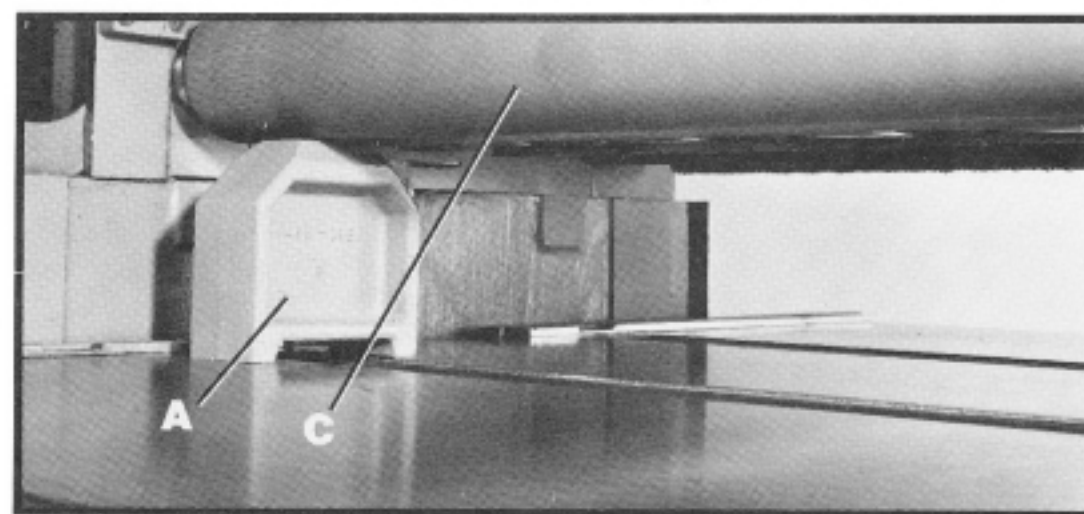

Fig. 29
4. Place the gage block (A) Fig. 29, underneath outfeed roll (C). The bottom of outfeed roller (C) should just touch the top of gage block (A) which would be .035" below the cutting circle.